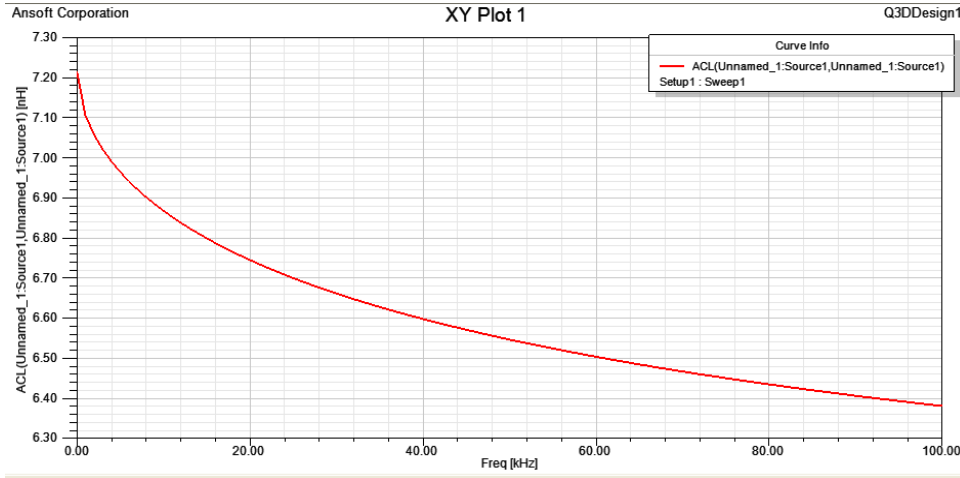
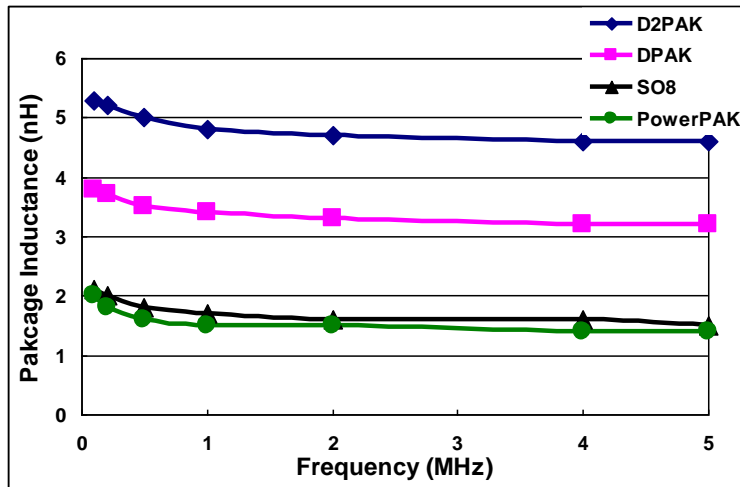

Figure 20 — TO220-3 Package Inductance vs. Switching Frequency Simulate by Ansoft
Figure 21 — Surface Mount Packages Inductance vs. Frequency
For L_S , figure 20 shows the typical L_S value of a traditional TO220-3 package MOSFET simulated by Ansoft. For some SMD packages, such like SO8 and TO252, the L_S is a bit smaller, which is in figure 21. The trace on the PCB layout will also bring in some leakage inductance, which is $\sim 1nH/mm$.
Derived from (17) and (18), the secondary CCM turn-off di/dt for this case is around $60A/\mu s \sim 150A/\mu s$ due to the different input. With a TO220 package SR FET ($\sim 6.5nH$ package inductance at $60kHz$ from figure 20), the voltage drop on package inductance V_{LK} will be $400mV \sim 900mV$ according to (16). This voltage drop is much larger compared with the voltage drop on $r_{ds(ON)}$ and dominate the V_{DS} in (15) trigger $-30mV$ turn-off threshold of the IC affirmatively.